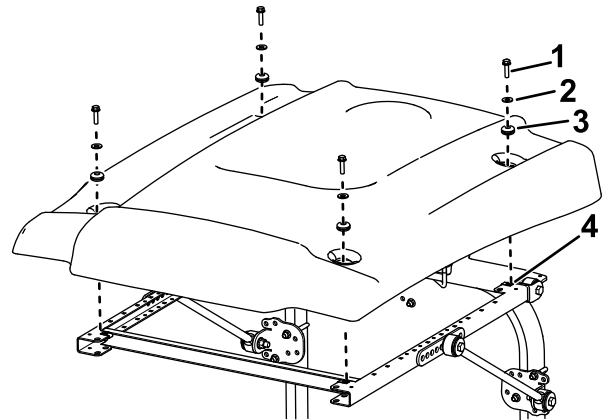

Figure 28
15. While aligning the mounting holes, position the sunshade onto the frame as shown in Figure 28.
16. Loosely mount each corner of the sunshade to the frame with a flange-head bolt (5/16 x 1 inch) a small washer, and a grommet (Figure 28).